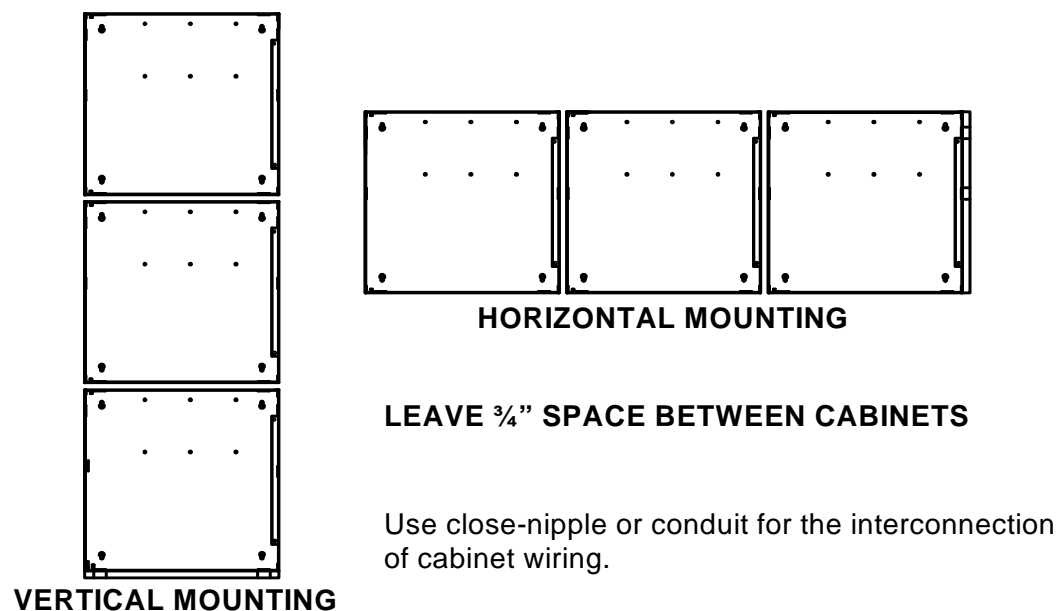
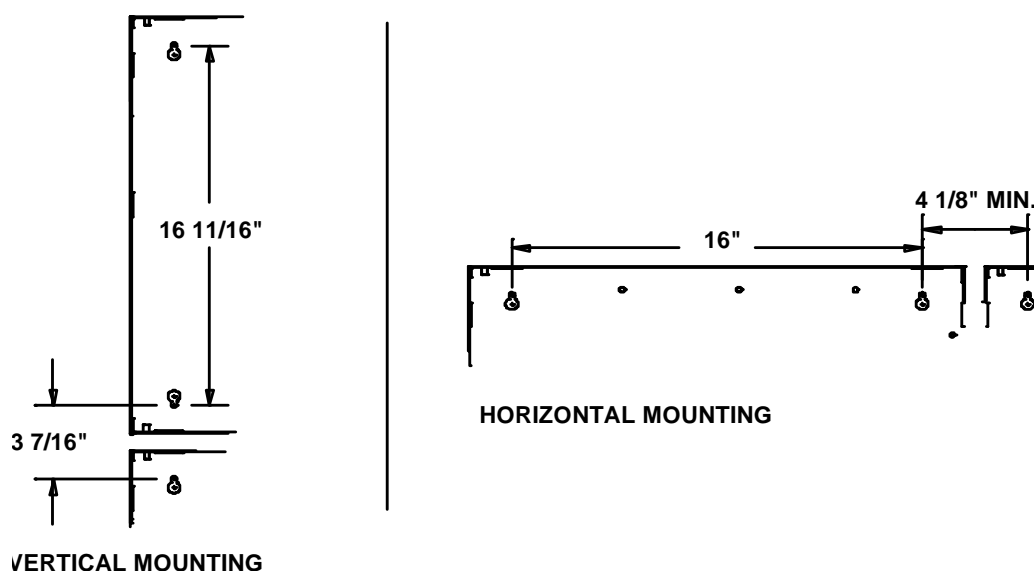

Figure 2.5.1 INCC-E Backbox Installation
Figure 2.5.2 INCC-E Backbox Installation
2. Remove the 1 $\frac{1}{4}$ " diameter knockouts from adjacent boxes prior to mounting to permit wiring from box to box and to peripheral devices in the field. Refer to Figure 2.5.1 and Figure 2.5.2.